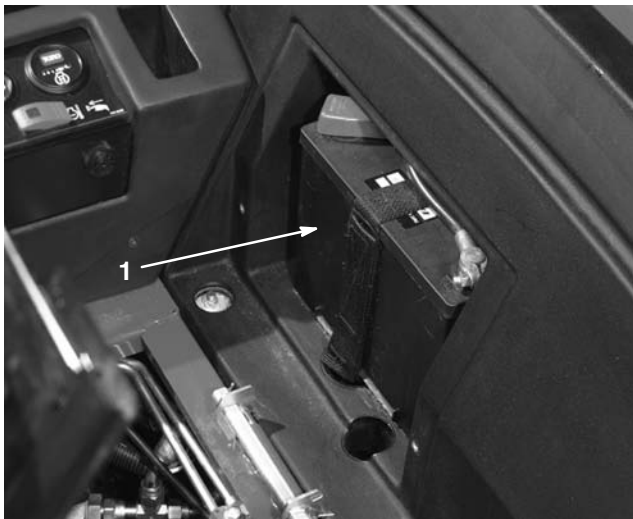

Figure 74
3. Remove the filler caps from the battery (Fig. 74) and slowly fill each cell until electrolyte is just above the plates.